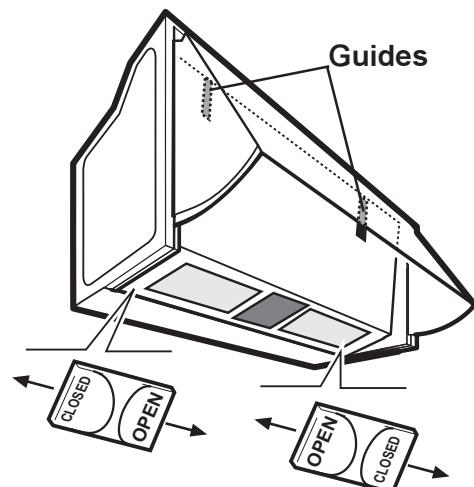

Fig. 5a - EFI 635
- Move the two sliders towards the centre (in the "OPEN" direction) and release the grille downwards. **Fig. 5a.**